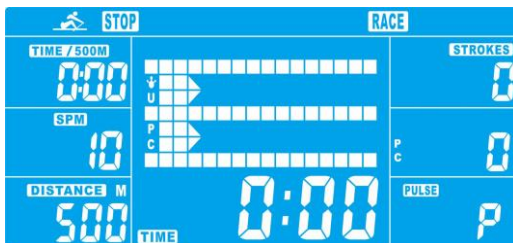

Fig. 10
a. Press UP and DOWN to select the race mode (Fig. 10). Press ENTER to confirm.